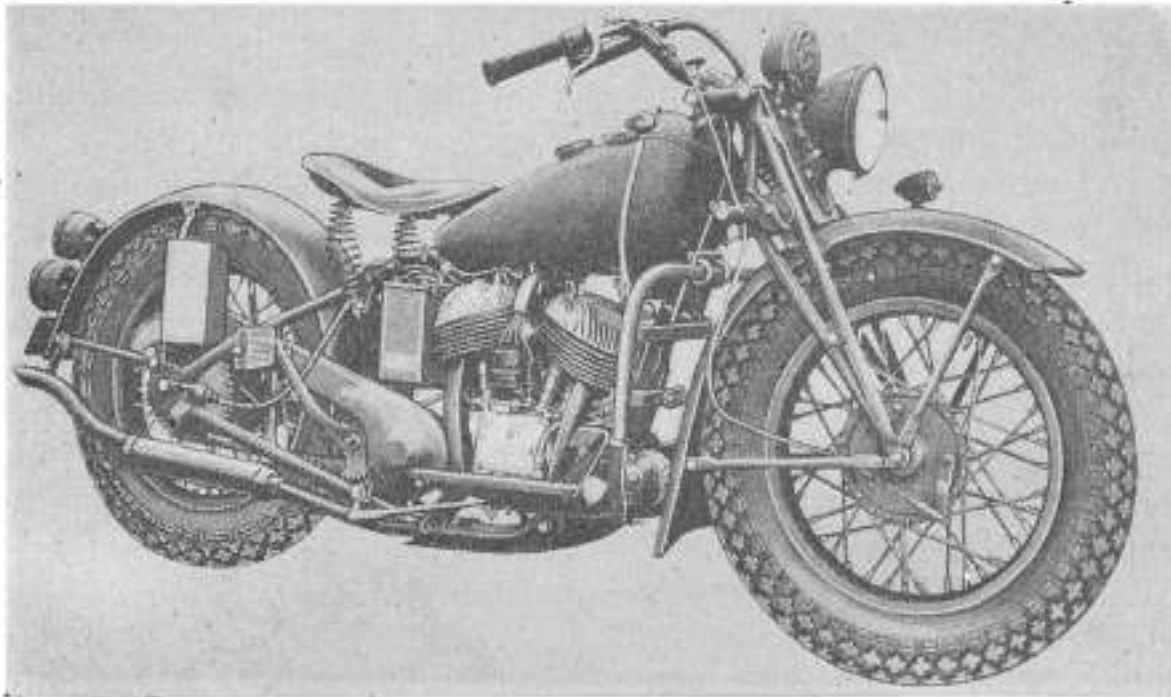

FIGURE 1.—Solo motorcycle (chassis type—2 x 1).
3. Construction.—*a.* In many respects, a solo motorcycle (fig. 1) is similar in appearance to a bicycle. Two wheels support and are connected by a frame. The vehicle is steered by handle bars which turn the front wheel. The rider sits on a saddle which is mounted on the frame, above and in front of the rear wheel. A chain or shaft transmits the power to the rear wheel. All shaft-driven motorcycles being supplied to the Army are solo models.